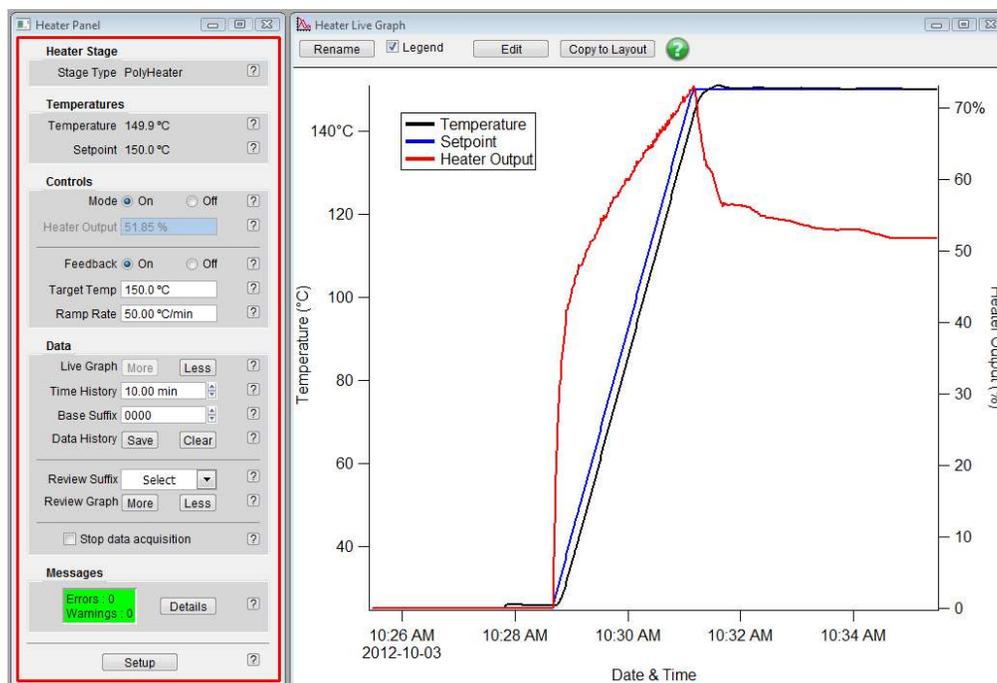

Figure 10.3.: Test of the Polymer Heater. What you might expect to see.
5. Watch the temperature rise on the history graph. An example of what you might see is in Figure 10.3 on page 136.
When the temperature setpoint is changed, the materials inside the polymer heater will thermally expand and contract. Asylum Research has tried to minimize these effects through careful choices of materials and design geometry. Nevertheless, images taken while the temperature is changing will experience thermal drift. Looking at Figure 10.3 on page 136 you can get an idea of the period during which thermal drift will be worst. Certainly, while the temperature is changing, you can expect some thermal drift effects.